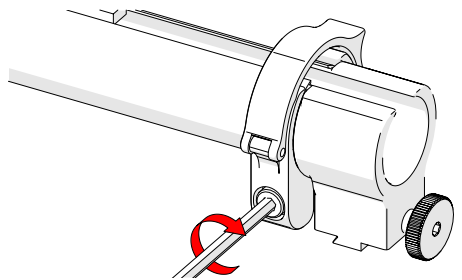

Fig. 184 - Tighten clamp screw
4. Tighten the clamp screw (Fig. 184).